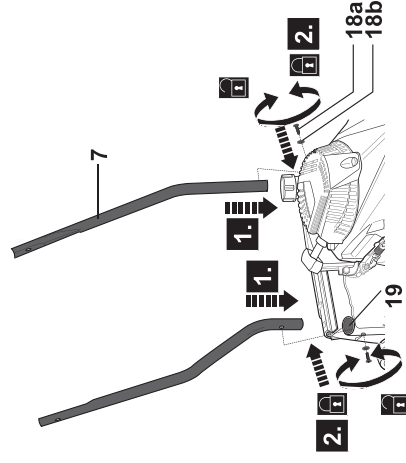

Fig. 1
1. Insert the lower handle bars (7) into the handle supports (18). Ensure the mounting holes in the lower handle bars (7) are aligned with the ones in the supports (18) (Fig. 1, step 1).
2. Secure the lower handle bars (7) with the screws (18a) and washers (18b) while using a proper cross-head screwdriver (Fig. 1, step 2).